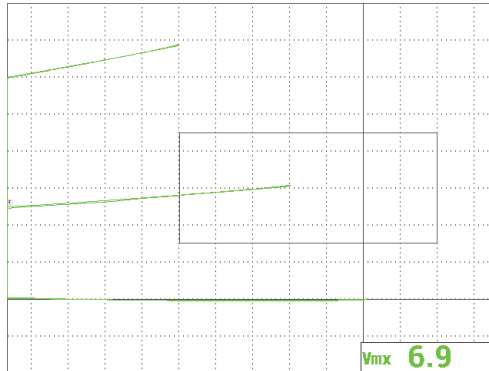

Figure 5-83 Using the vertical position of the signal to accept or reject the sample
14. Place the probe on the different conductivity samples, and evaluate the vertical positions of the signals to decide whether to accept or reject the sample (see Figure 5-83 on page 187). The vertical position, or height, of the signal's end point represents the conductivity value that is used for acceptance or rejection, and the horizontal position represents the lift-off.